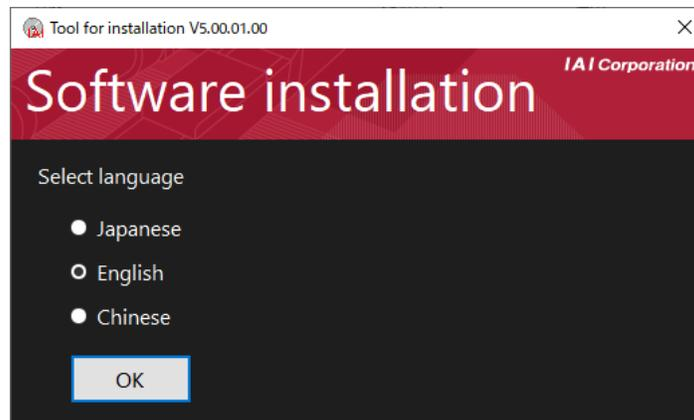

Fig. 1.1 Tool for Installation Screen
- 2) The tool for installation screen (Fig. 1.1) will be displayed.
* What to do if the tool for installation screen (Fig. 1.1) is not displayed
If the data installation selection screen (Fig. 1.1) is not displayed even when the DVD-ROM is inserted, display the screen according to the process below.
- b. Double-click  IAI_Install.exe to display the tool for installation screen (Fig. 1.1).
(2) Installation of the computer-dedicated teaching software for XSEL (RSEL)